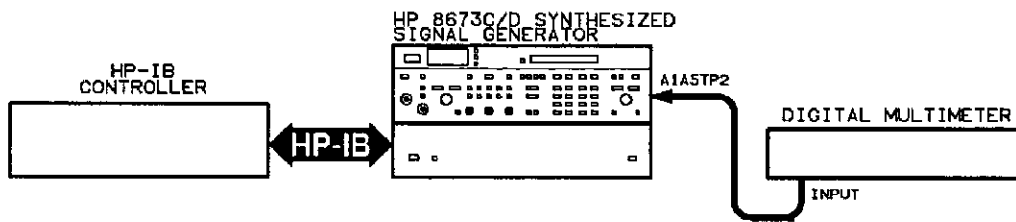

Figure 5-45. PAC DAC Adjustment Test Setup
2. Connect the equipment as shown in figure 5-45.